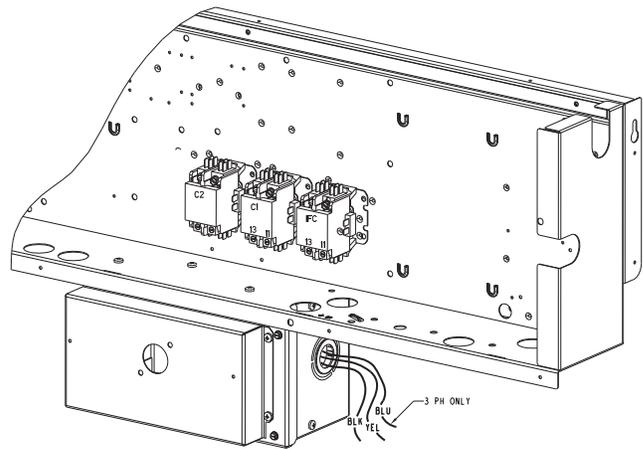

Fig. 20 — NFD Enclosure Location
2. Remove (3) hex screws on the NFD enclosure — (2) on the face of the cover and (1) on the left side cover. See Fig. 20.